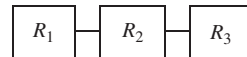

Figure P11.8 Circuit component reliability in series.
- 11-8.** A circuit has three systems working in series with reliabilities of $R_1 = 0.97$, $R_2 = 0.85$, and $R_3 = 0.99$ as shown in Fig. P11.8. If any of these systems fails, the circuit fails. What is the overall reliability of the system?